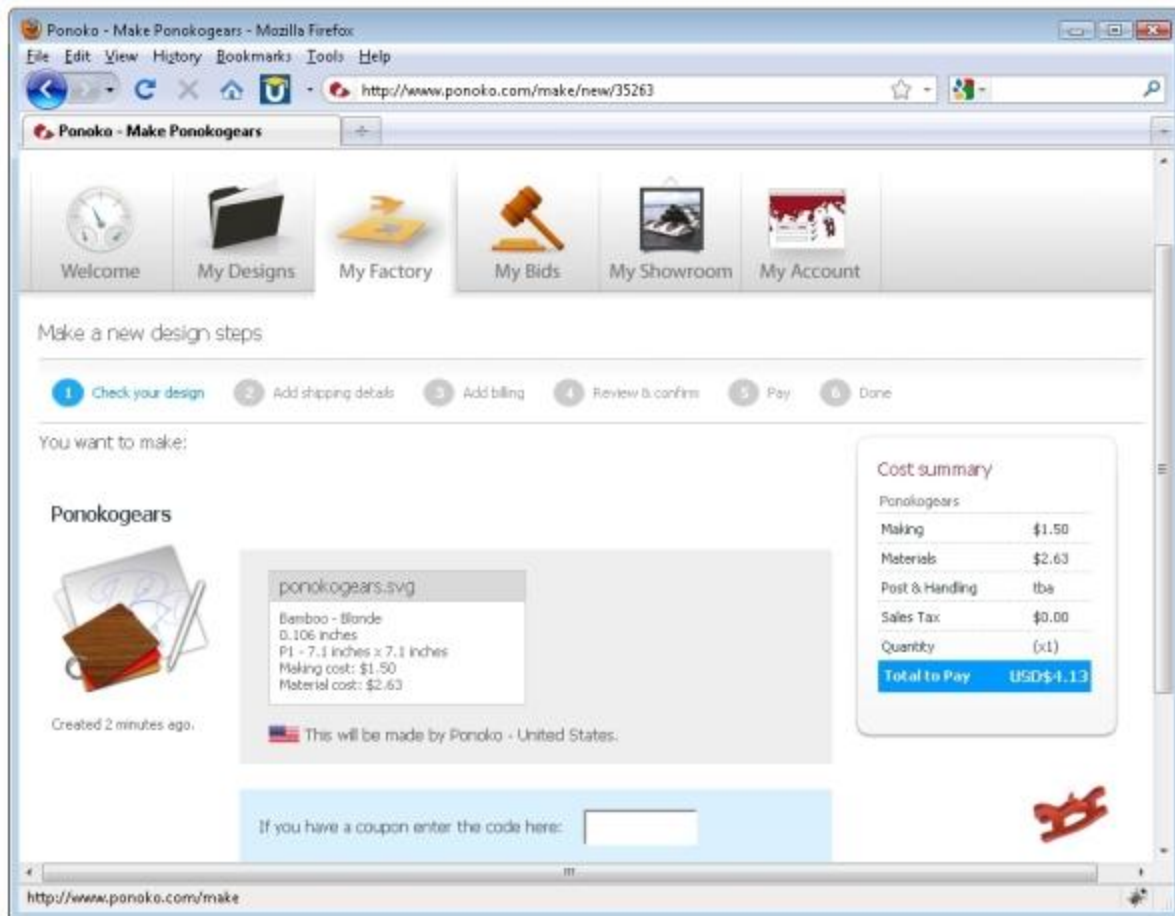

Figure 10
2. Save the file and go to Ponoko.com to set up a free account, upload it, pick a material, and get it shipped! I chose blonde bamboo as shown in Figure 10 and the total cost was just \$4.13 (plus shipping).